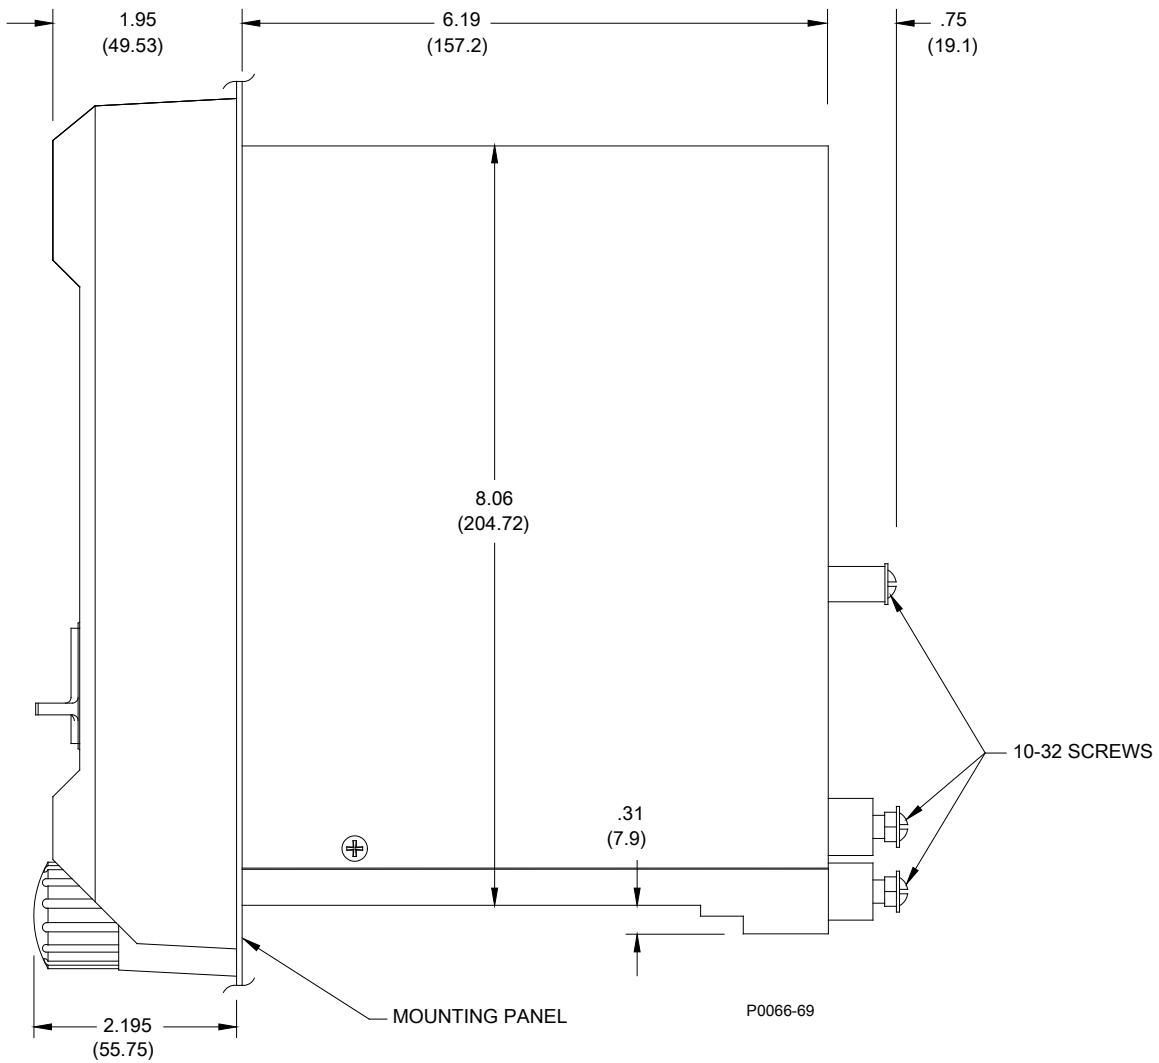

Figure 4-5. S1 Case Dimensions, Side View, Single Ended, Semi-Flush Mount
- Figure 4-5: S1 Case Dimensions, Side View, Single Ended, Semi-Flush Mount